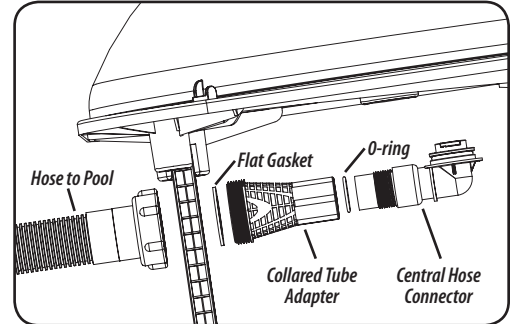

Figure 3
1. Attach the collared tube adapter with o-ring to the central hose connector under the base. Make sure the o-ring is in the collared tube adapter prior to attachment (see figure 3).